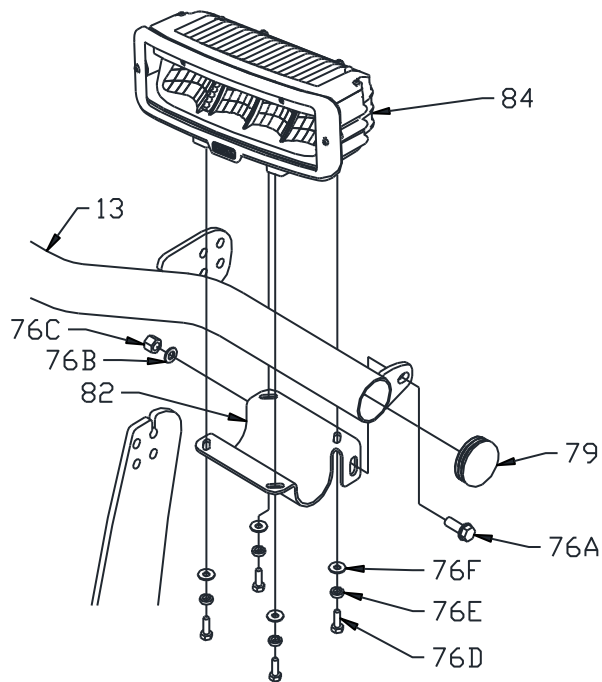

Figure 11. Headlight Mounting Assembly G10115
29. Check that End Cap (79) is properly inserted into Light Bar (13).
30. Place Driver Side Headlight Bracket (82) below Light Bar (13) and secure with one 3/8"-16 X 1" Hex Head Shoulder Bolt (76A), one 3/8" Flat Washer (76B), and one 3/8" Nylon Lock Nut (76C).
31. Fasten Driver Side Headlight (84) to Driver Side Headlight Bracket (82) using four 1/4"-20 X 3/4" Hex Head Bolts (76D), four 1/4" Split Lock Washers (76E), and four 1/4" Flat Washers (76F). Leave fasteners finger tight until Headlight orientation has been completed. See Figure 11 for proper fastener placement. **Torque to 6 ft-lbs. DO NOT USE THREAD-LOCKING COMPOUND.**
32. Repeat Steps 28 through 30 for Passenger Side Headlight Bracket (83) and Passenger Side Headlight (85).